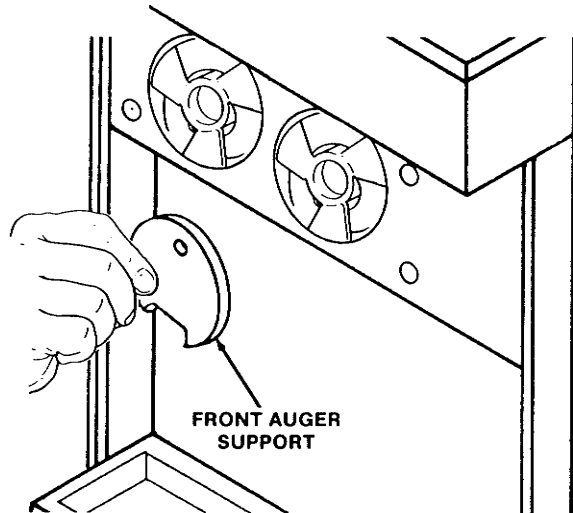

Figure 23. Removing Auger Supports
D. Remove the front auger supports (Fig. 23).